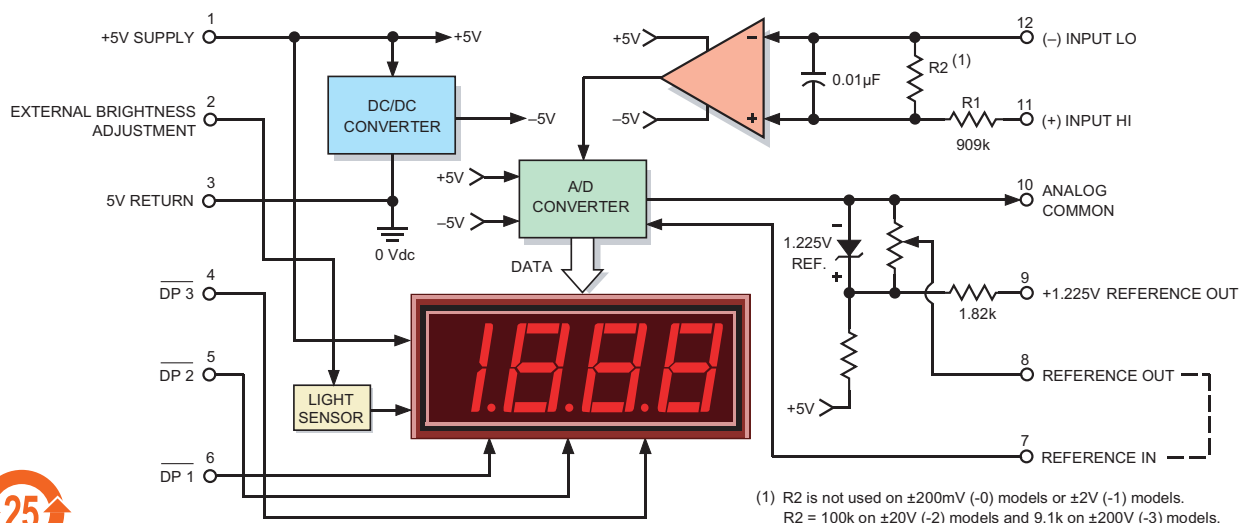

Figure 1. DMS-30DR Simplified Schematic
① Applies for transient or continuous overvoltages applied to (+) INPUT HI (pin 11) with (–) INPUT LO (pin 12) properly connected. Pin 12 is not overvoltage protected (see Figure 1). Voltages applied to pin 12 should not exceed the supply voltage.
② See Technical Notes.
The simplified schematic shown in Figure 1 can be very useful when debugging a malfunctioning panel meter circuit, particularly if the user has some knowledge of operational amplifiers (op amps). The meter’s high-impedance input consists of an op amp powered from a $\pm 5Vdc$ power supply (the $-5V$ is internally generated). Knowing this, one can easily see why input signals applied to (–) INPUT LO and (+) INPUT HI have to be kept within the power supply rails of $\pm 5V$. Also note that only pin 11 has a current-limiting 909k Ω series resistor. High input voltages that have a common ground with pin 3 (5V RETURN) should only be applied to pin 11 ((+) INPUT HI) and never to pin 12. In these high-voltage cases, pin 12 should always be tied to pin 3 (5V RETURN).